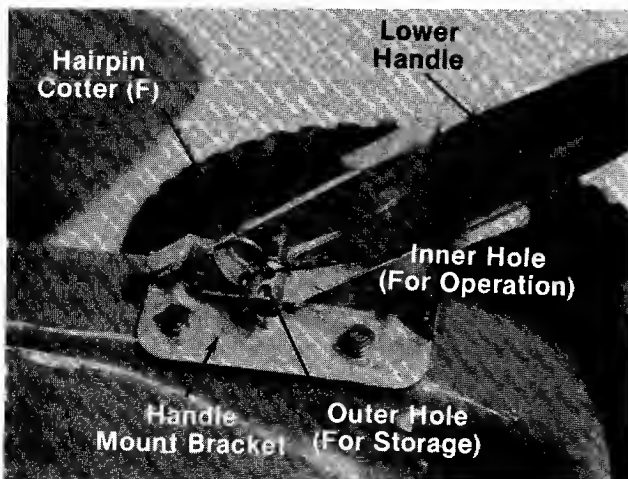

FIGURE 2.
- A (2) Hand Knobs
- B (2) Curved Carriage Bolts 5/16-18 x 1.75" Long
- C (2) Hairpin Cotters
- D (4) Cable Ties
- E (2) Lock Washers 5/16" I.D.
- F (2) Hex Nuts 5/16-18 Thread
3. Place lower handle in position over weld pins in handle mount brackets on deck. Make certain the instruction label on the lower handle can be read from the operating position. Secure by placing two hairpin cotters (C) in inner hole on weld pins. See figure 2.